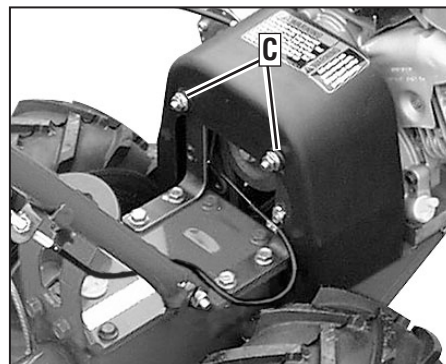

Figure 5-13: Belt cover.
2. Remove the two nuts (C, Figure 5-13) and remove the belt cover.
2. Remove belt cover (Figure 5-13) by removing two flange locknuts.